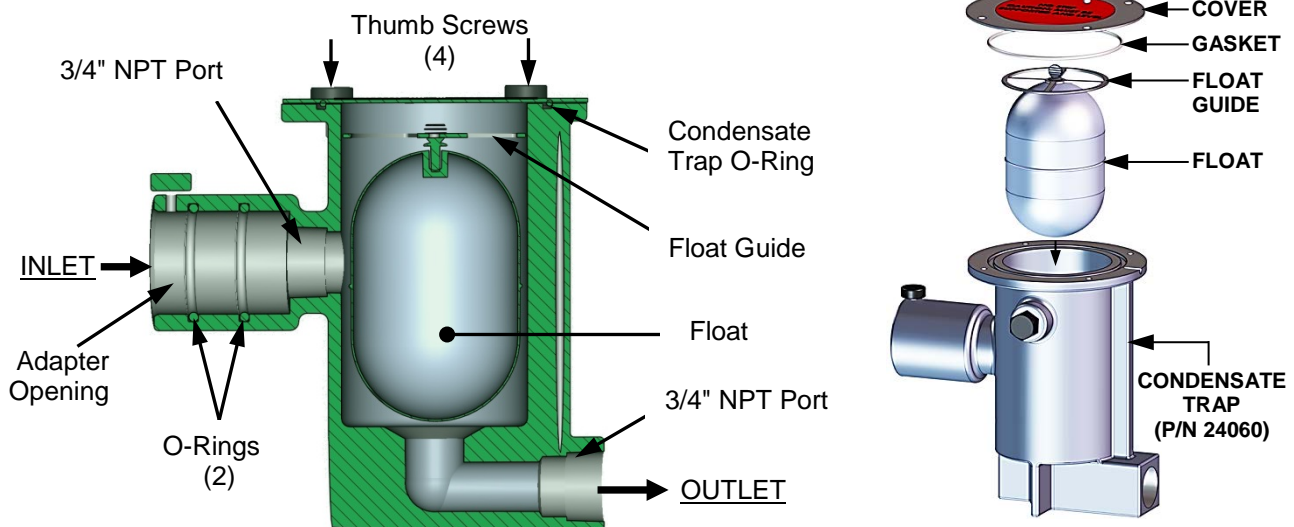

Figure 7-6: External Condensate Trap: Cutaway and Exploded Views
2. Remove the connections on the inlet and outlet sides of the condensate trap shown in Figure 7-6.
3. Loosen the four (4) thumbscrews securing the cover on the condensate trap. Remove the cover.